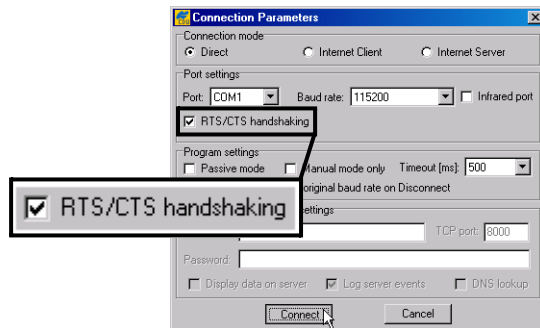

Figure 5-9. Connection Parameters – RTS/CTS Handshaking
2. Open PC-CDU. On the *Connection Parameters* dialog box, enable *RTS/CTS handshaking* and click **Connect** (Figure 5-9).